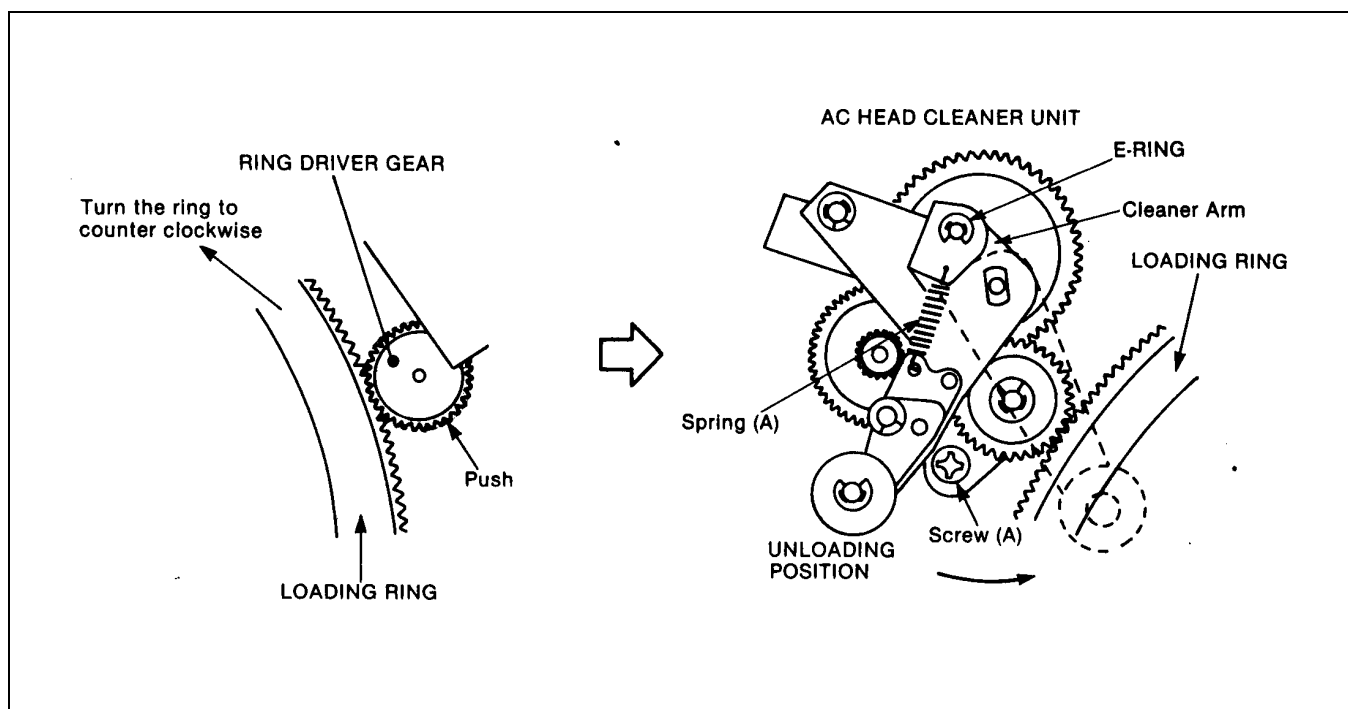

Figure 7-29-1
2. Pushing ring driver gear, turn the loading ring counterclockwise until screw (A) appear on A/C head cleaner unit as shown in Figure 7-29-1.
3. Unscrew screw (A) and remove A/C head cleaner unit.